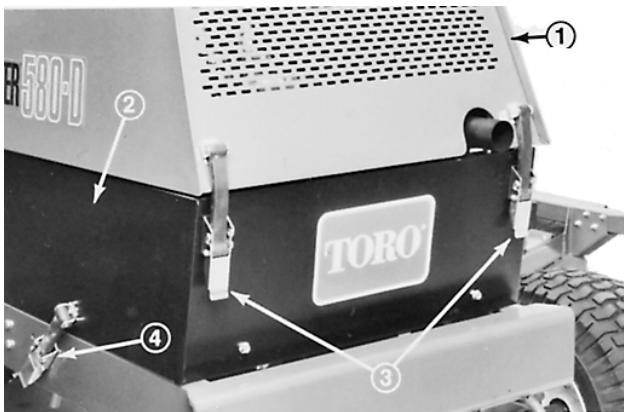

Figure 1
- Unlatch the hood and left-hand engine side panel (Fig. 1). Raise and prop the hood open and remove the left side panel. Make sure the hood prop is secured in one of the mounting brackets on the hood.
- Unlatch the hood and raise and prop it open (Fig. 1). Make sure the hood prop is secured in one of the mounting brackets on the hood.